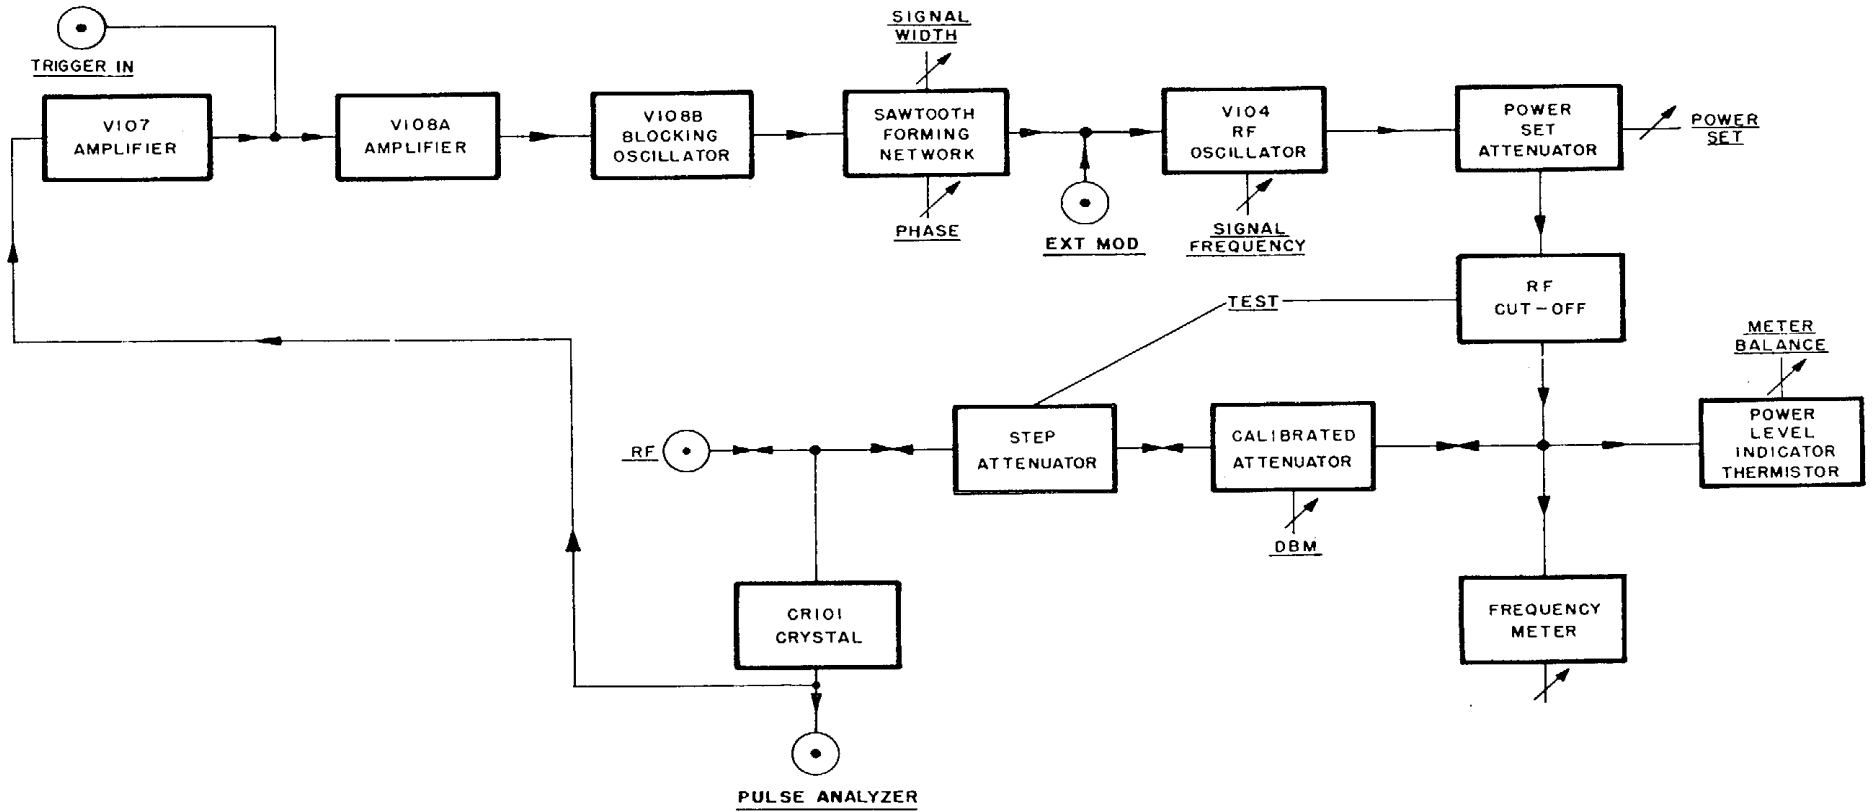

Figure 2-1. Block Diagram of Test Set TS-147D/UP
a. GENERAL. --A block diagram of Test Set TS147D/UP is given in figure 2-1. The output signals are generated by the reflex klystron oscillator. They are either frequency modulated by the sawtooth voltages supplied by the triggered sweep circuit, or pulse modulated by the voltages supplied by an external pulse circuit. When the signals are frequently modulated, synchronism is obtained through one of two methods: by supplying trigger voltages at the TRIGGER connector, or by the RF pulses detected by the crystal detector and amplified by the trigger amplifier.